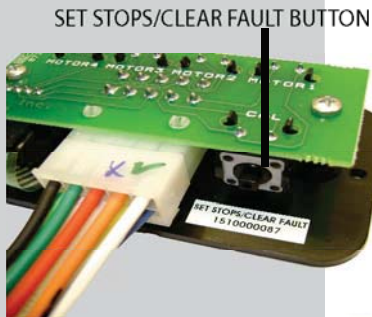

Figure 2
- MAJOR faults must be cleared by pushing and releasing the Set Stops/Clear Faults button located on the back of the wall touchpad (Fig 2). This is done to alert the user that there is a major problem with the system and to prevent damage to the slideout room.
Manual mode permits the operator to individually move the two room arms by pressing the IN and OUT buttons on the touch pad. ***This mode can be used only if there is not a motor failure.*** To override the sensor and enter the Manual Mode, press and hold the Set Stops/Clear Fault Button (see figure 2) for approximately 5 seconds until the two upper left-hand red LEDs (Park Brake and Low Voltage) begin to flash.